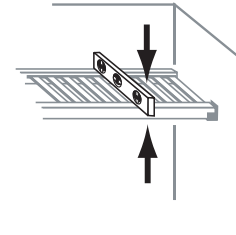

FIG. 1.5
- Level shelf (front to back - Fig. 1.5)